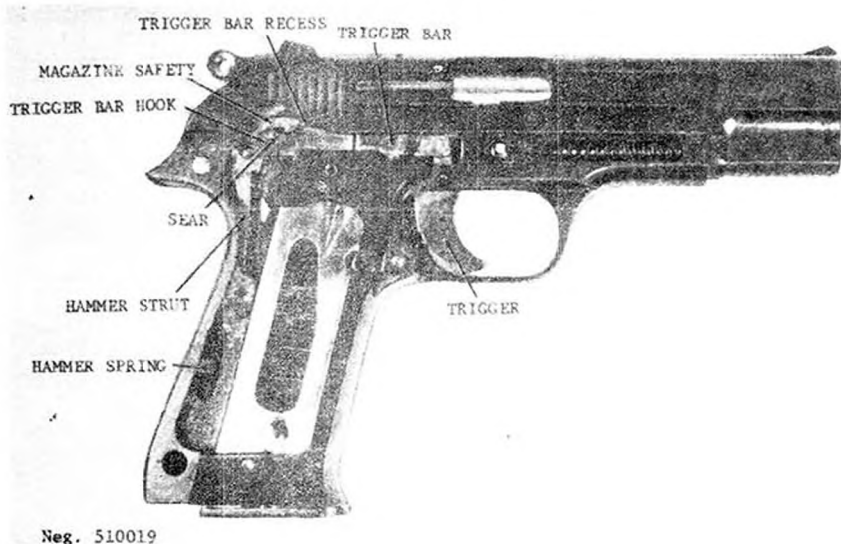

Figure 20. M.A.B. P15 section.
c. The hammer, when cocked, is held by the spring-loaded sear. When the trigger is pressed, the trigger bar (fig 20) moves forward, and a hook on its rear end engages the sear (fig 20) and pulls the sear forward, out of engagement with the hammer. The hammer, under the force of the hammer spring, swings forward, strikes the firing pin, and fires the cartridge. As the slide recoils, the trigger bar is forced down, out of its recess (fig 20) and releases the sear. The sear, under pressure of its spring, snaps back against the hammer which is rocked rearward by the recoiling slide.
f. The front end of the magazine safety (fig 20) has a hook that fits in front of the left top of the sear, preventing movement of the sear. When the magazine is fully inserted, it lifts the magazine safety out of engagement so that the trigger bar can move the sear to fire.